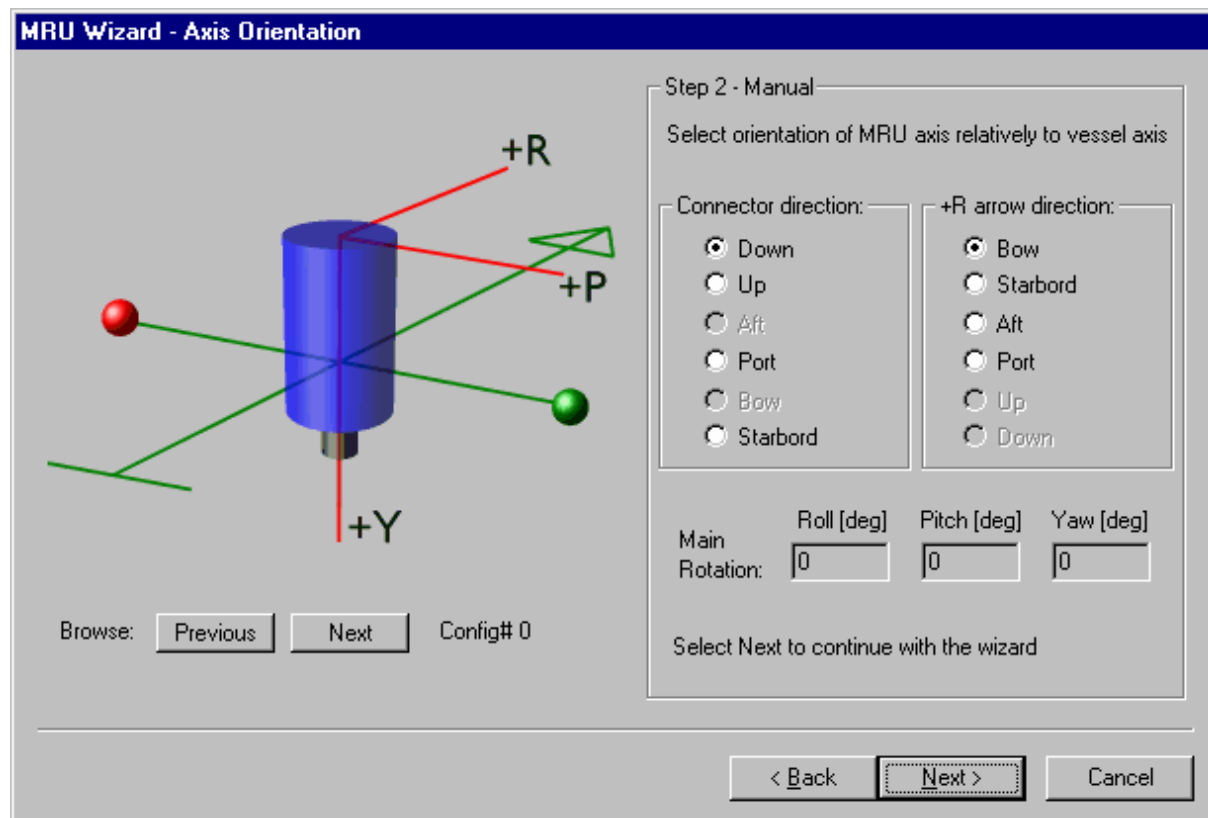

Figure 41 Step 2 of Manual MRU Axis Orientation
- Manual setup selected in Step 1. Click **Next** to go to the **Step 2 –Manual** window as shown in Figure 41. Click the **Previous** or **Next** buttons in the left part of the window to turn the MRU unit around in 90-degree steps, axis by axis. Click until the correct mounting orientation of the MRU has been found. The right part of the window is automatically updated with the actual main rotation of the MRU.